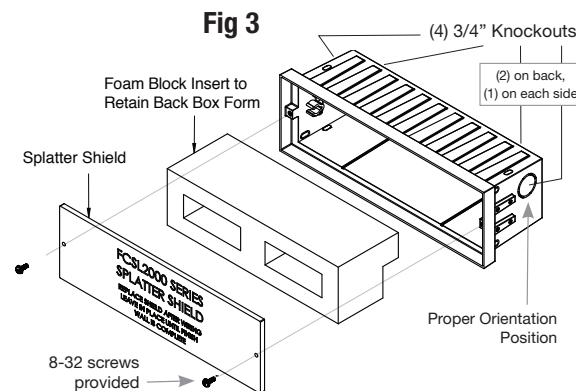

Fig 3
3. Connect conduit to backbox using 3/4" K.O.s. **Fig 3**
2. Reinstall the Splatter Shield and contents into the Back Box and allow Threaded Rods to pass through the Pour Form. Fasten the Back Box assembly to the Pour Form using (2) Wing Nuts provided on the already installed Threaded Rods. Refer to **Fig 3**.
Connect conduit to backbox using 3/4" K.O.s. **Fig 3**
(2) 8-32 screws provided to secure and remove the Splatter Shield and contents. **Fig 3**